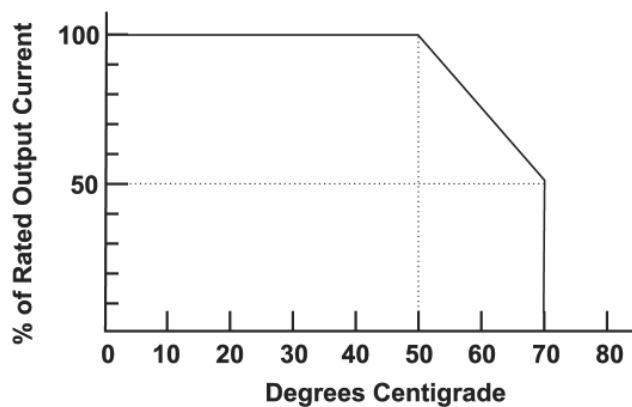

Figure 5. Rated Output Current vs. Ambient Temperature
- 12.4 Output Power.** Maximum output power for the TPCMQ48 modules is 700 watts for the 24 or 27.2V output models and 650 watts for the 12 or 13.6V models. The maximum output power for the TPCMQ24 modules is 1,000 watts. The maximum output power of a module may be drawn at up to 50°C ambient temperature. Above 50°C the output current must be derated by $2.5\%/^\circ\text{C}$. See Fig. 5. The maximum operating temperature is 70°C , at which the output current must be derated by 50%.